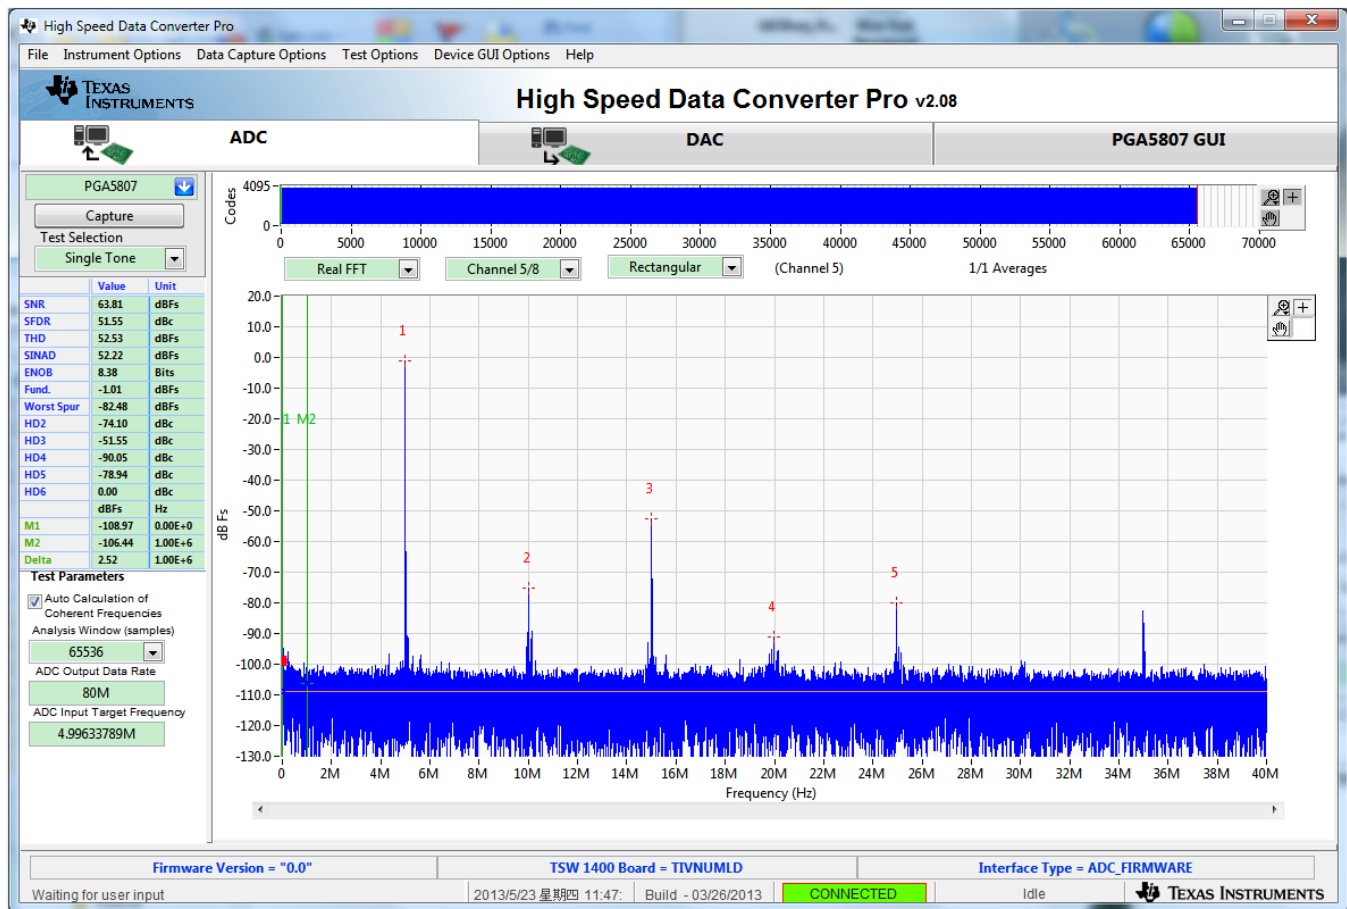

Figure 45. PGA5807+ADS5296 SNR, THD, Gain Test Capture 1
- Click on the ADC tab and press *Capture* to see result similar to Figure 45. Take note of the *Fund.* value in the table to the left. In a similar manner to that described in Section 4.3, the input signal amplitude to the PGA5807 should be adjusted and a re-capture done iteratively until the *Fund.* value is approximately -1.0 dBFs. As -1.0 dBFs is the ADC level at which datasheet specifications are set, the SNR and THD of the signal chain can be taken from the table to left at this value of *Fund.*